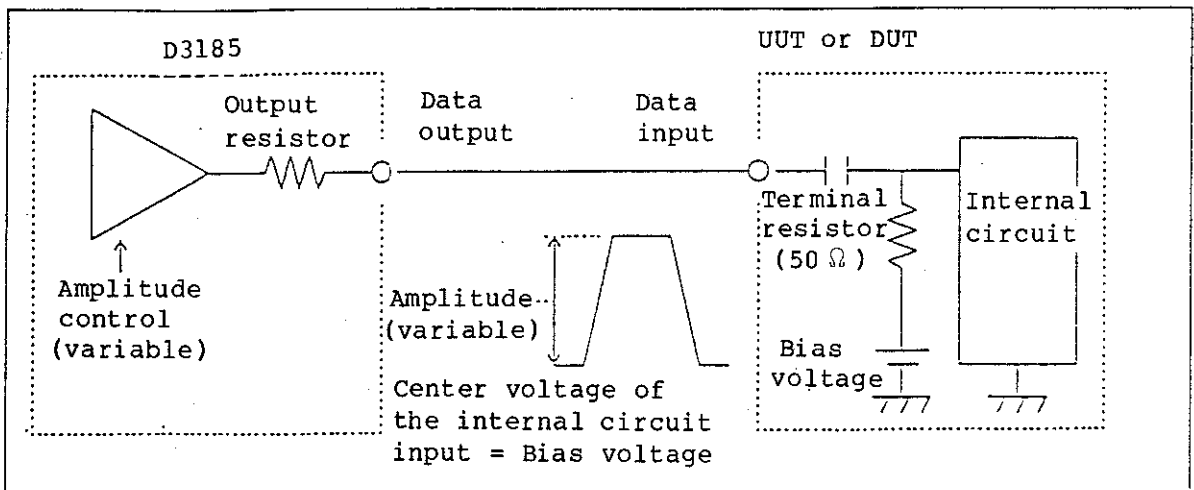

Fig. 4-3 With Data Output in AC mode and AC-connected Termination
(3) If the UUT or DUT data input is connected to AC (See Fig. 4-3.)